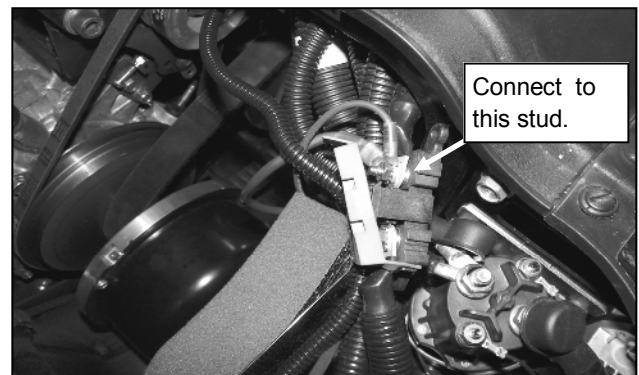

Fig. 5.3 (Connect to Alternator Harness Fuse)
- 5.3** See Figure 5.3. In the battery compartment, connect the two small ring terminals on heater harness to the 100 Amp Fuse Terminal on the main power wire running from the alternator to the battery.